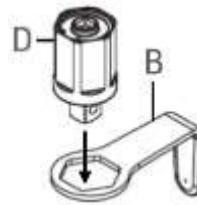

Fig. 1
1. Place the torque multiplier body (D) into the corresponding hole in the reaction bar (Fig. 1).